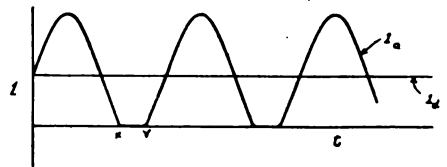

Fig. 25
Type (2).—Those in which the amplitude of the (approximately) sinusoidal current is at least equal to that of the direct current, but in which the direction of the current is never reversed. These conditions are illustrated in Fig. 25. It is obvious that during the time represented by the space, XY, the arc is extinguished. During this time the voltage across the condenser,  $C_1$ , is gradually rising, until at Y its value is sufficient to cause the arc to start again. It is clear that, whereas in Type (1) the frequency of the alternating current produced is very approximately what would be expected in a circuit of the constants,  $L_1$  and  $C_1$ , in the case of Type (2) this is not the case. For we must consider in this case that the supply circuit is capable of charging the condenser,  $C_1$ , at a limited rate, and that the period between successive pulses of current through the arc may be considerable. In fact, the period in question is very markedly affected by the length of the arc and the corresponding arc voltage.